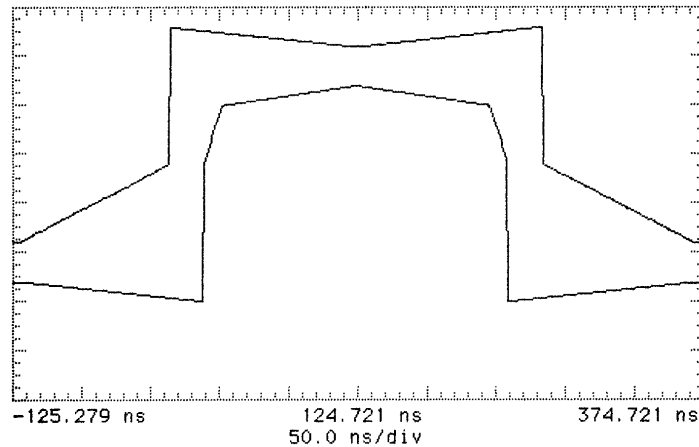

Figure 3-16 **2 Mb/s Pulse Mask**
23. Press **SHIFT** **AUTOSCALE** on the oscilloscope to automatically align the pulse to the mask. Verify that the pulse falls within the mask as shown in Figure 3-16.
If your oscilloscope does not have the Mask feature, obtain a printout of the displayed pulse. Place the mask shown in Figure 3-16 over the pulse and ensure that the pulse falls within the mask (a transparent copy of the mask should be used).
27. Adjust the oscilloscope timebase, delay and vertical sensitivity controls to verify that the pulse meets the mask as shown in Figure 3-16. Use the displayed settings as a guide.